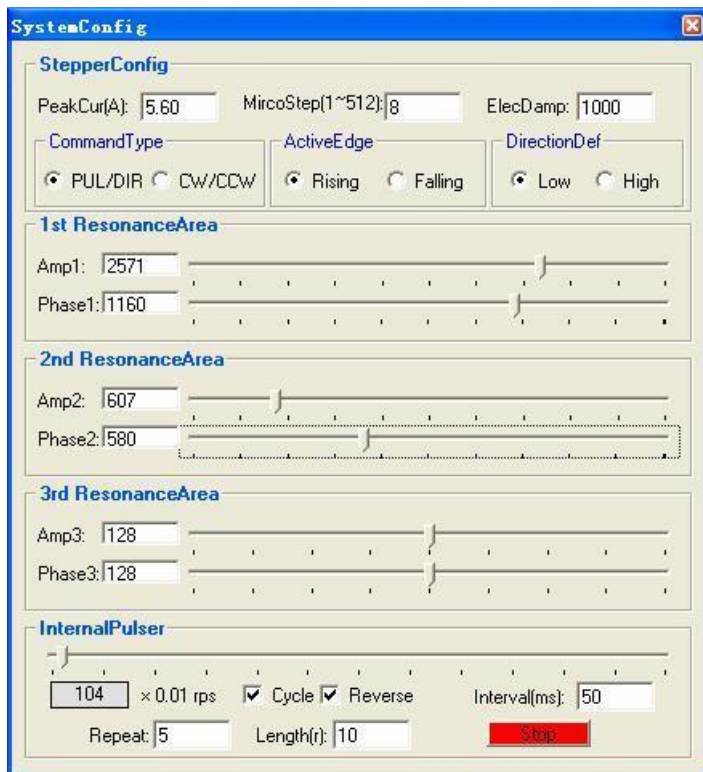

Figure 16: Anti-resonance tuning
Step 1: Start the motion test by clicking **Start/Stop** button. Find a resonance speed by slightly moving the slider bar of internal pulse generator back and forth. See Figure 16.